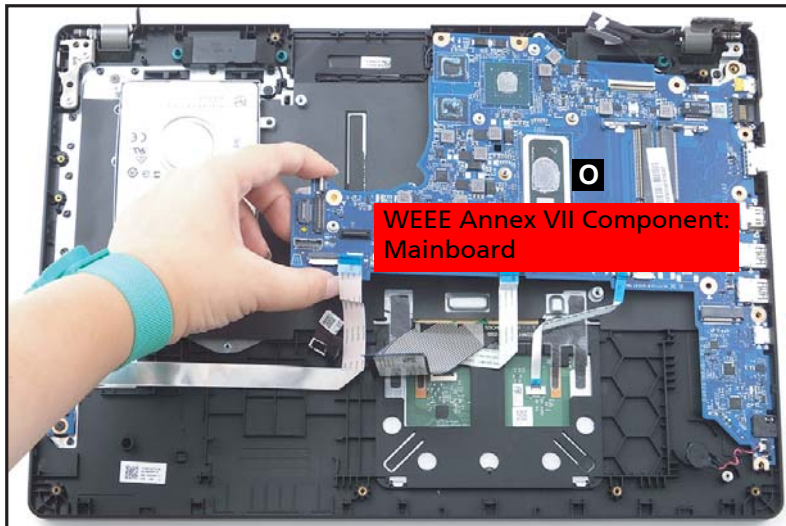

Figure 1-47. Mainboard Removal
17. Remove the mainboard (O) from the top assembly (Figure 1-47).